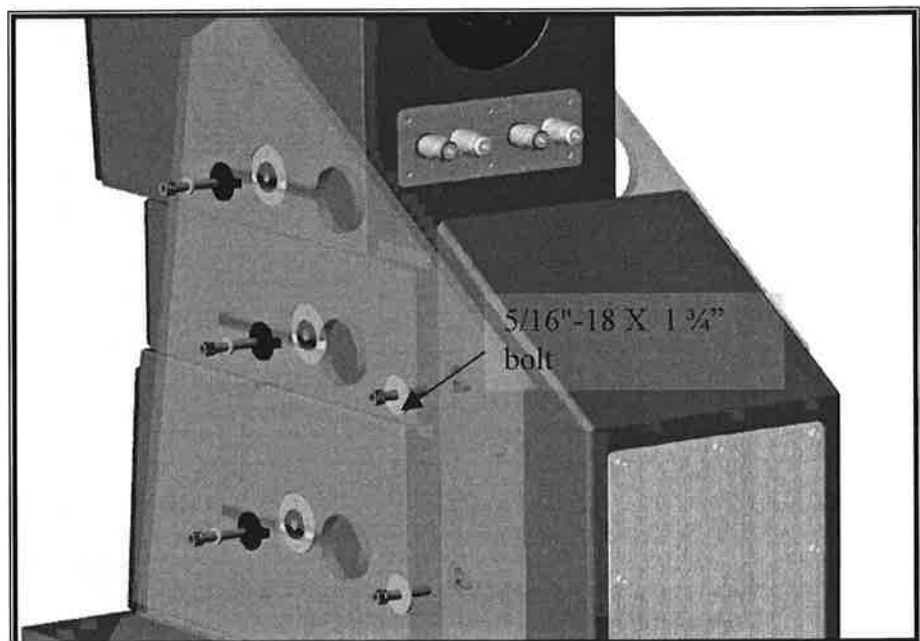

FIGURE 17 POSITIONING THE UPPER CROSSOVER
- Position the U C/O S-A as shown in Figure 17